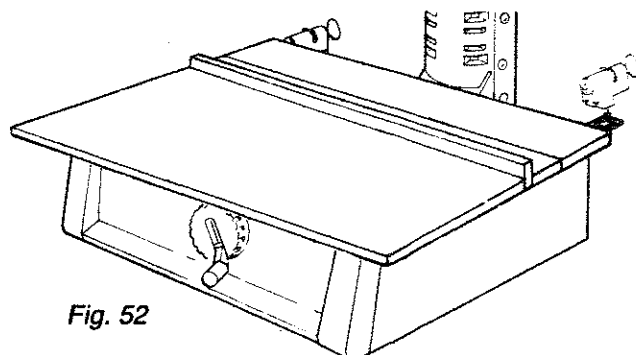

Fig. 52
4. Tilt clamp bracket forward and snap in place in rectangular shaped hole at back of table support. (Figure 52)